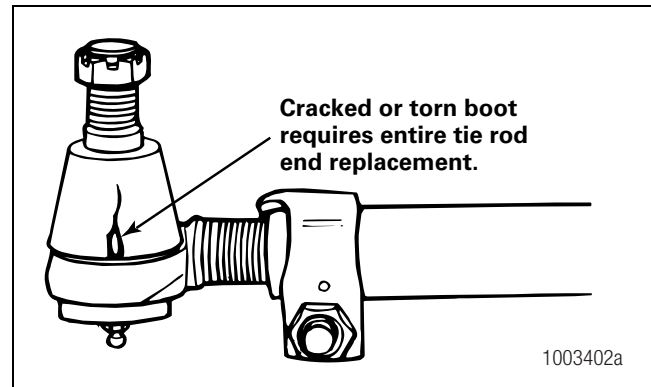

Figure 5.11
5. Check for cracking or tears in the boot. Also check the boot seals for damage. Replace the entire tie rod if the boot is damaged or missing. Figure 5.11.